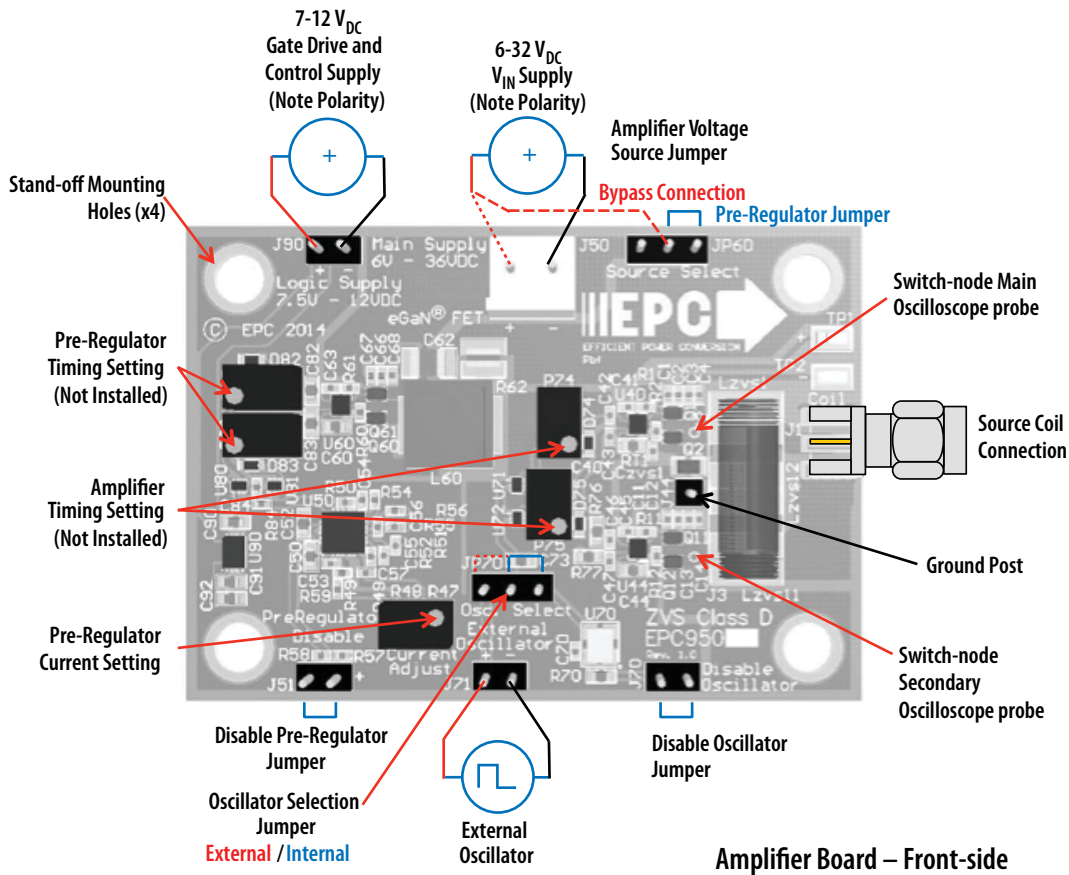

Figure 2: Proper Connection and Measurement Setup for the Amplifier Board
3. Connect a LOW capacitance oscilloscope probe to the probe-hole J2 and lean against the ground post as shown in Figure 2.